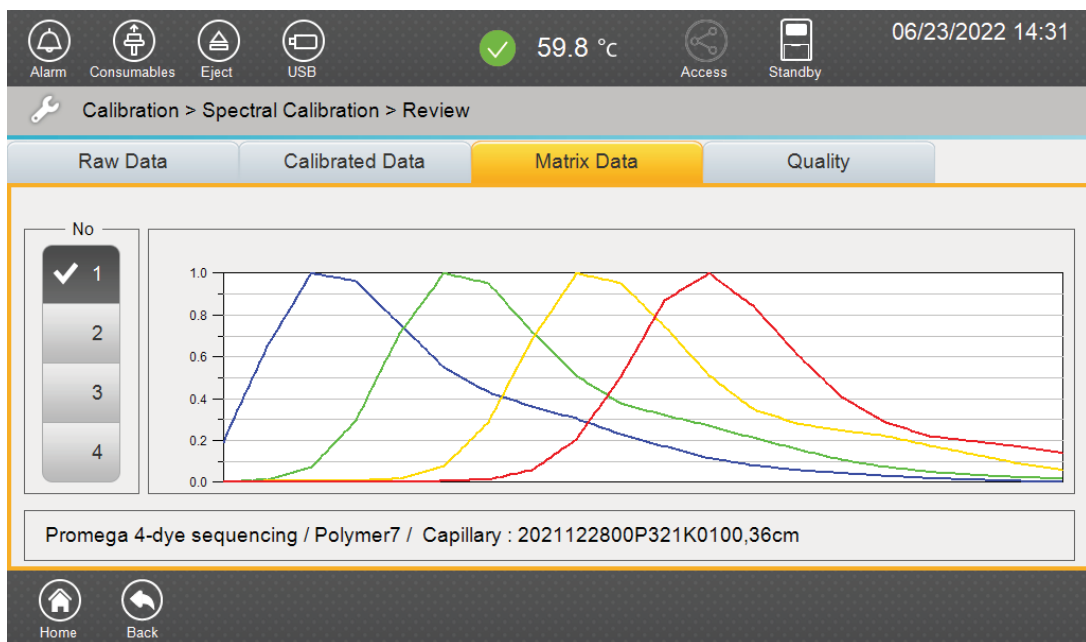

Figure 12. 'Spectral Calibration' screen, 'Matrix Data' tab.
3. The 'Matrix Data' tab can be used to view emission spectra for each capillary (Figure 12).